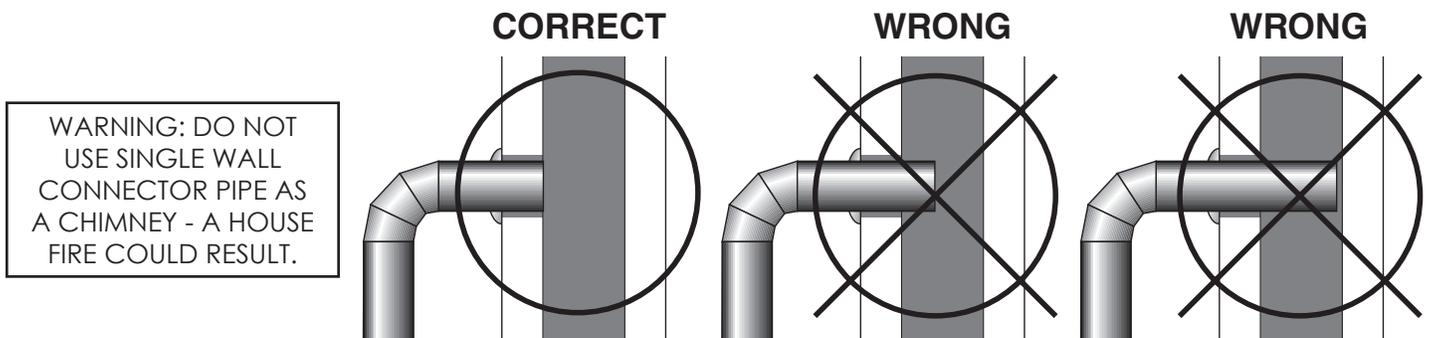

Fig. 10 – Stovepipe/Flue Connections
4. The pipe cannot extend into the chimney flue (fig. 10).
6. It is recommended that no more than two (2) 90 degree bends be used in the stovepipe installation. The use of more than two 90 degree bends may decrease the amount of draw and possibly cause smoke spillage. Where possible, use only corrugated (non-adjustable) elbows. These provide a better seal.
7. The connector pipe must not pass through an attic or roof space, trusses, closet, or any concealed space, or floor, ceiling, wall or combustible construction. (See Chimney Connector Systems & Clearances). A UL 103 HT (US)/ULCS629 (CDN) listed chimney must be used from the first penetration of ceiling or wall to the chimney cap. Where passage through a wall or partition of combustible construction is desired, the installation shall conform to NFPA 211 (US) or CAN/CSA-B365 (Canada)
Connection may be made to a code-approved masonry chimney with flue liner. Before using an existing masonry chimney, clean the chimney, inspect the flue liner and make any repairs needed to be sure it is safe to use. Make repairs before attaching the stove. The connector stove pipe and fittings you will need to connect directly to a lined masonry chimney are shown in figure 10. If the connector stove pipe must go through a combustible wall before entering the masonry chimney, consult a qualified mason or chimney dealer. The installation must conform to local building and fire codes and latest edition of NFPA 211. If there is a clean out opening in the base of the chimney, close it tightly.
2. Install a fire clay (5/8" minimum thickness) thimble. Make sure the thimble is flush with the inner surface of the chimney liner and does not protrude into the flue (see figure 10).